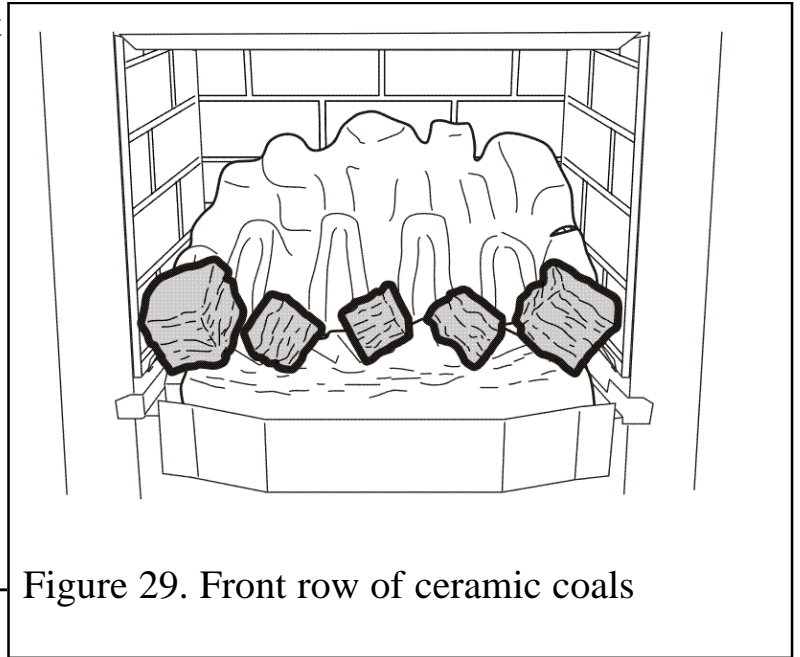

Figure 29. Front row of ceramic coals
3. Locate the two large ceramic coals at the ends of the front base ceramic coal. The large ceramic coals have two sides that are smooth. Locate one smooth side along the side of the hotbox and the other to the rear (See figure 29).
4. The top surface of the front ceramic base coal has three 'V' shaped indents. Locate a small ceramic coal into each indent (See figure 29).